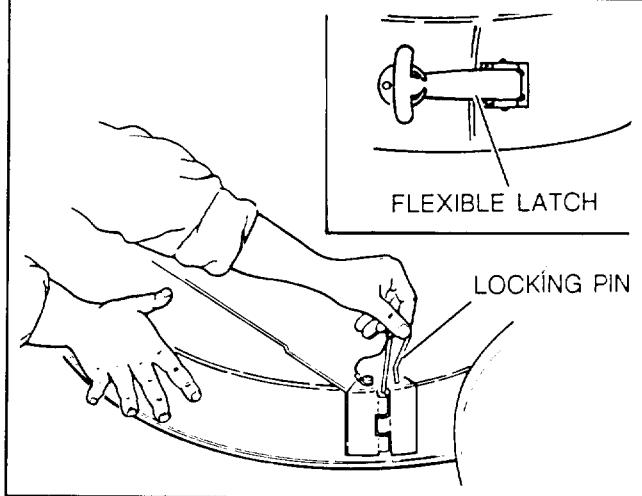

Figure 6
- Slide chute assembly under deflector. Hook rear chute bracket around pivot post on deck. Slide front of chute into locking position with mating part of hinge lock. Insert locking pin (Fig. 6).
- Hook flexible latch into notched bracket at rear of deck opening (Model 59178 only) (Fig. 6).